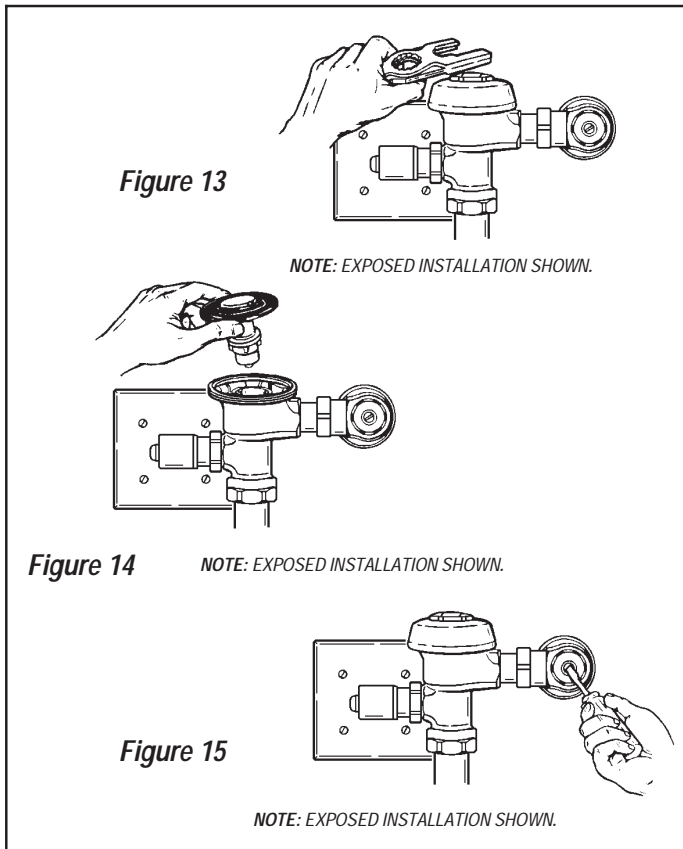

Figure 13
Step 11 — Flush Out Supply Line (Figures 13 and 14)